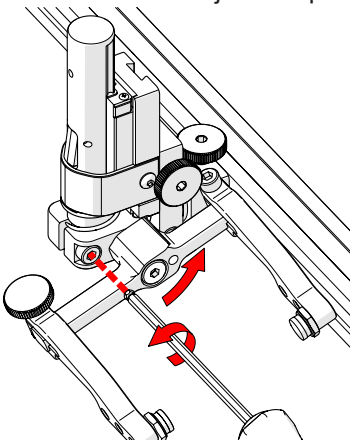

Fig. 173 - Loosen 3 mm screw
2. Using the supplied 3 mm hex driver loosen the transverse adjustment screw (*Fig. 173*) and rotate the yoke about the vertical shaft achieving the desired angle.